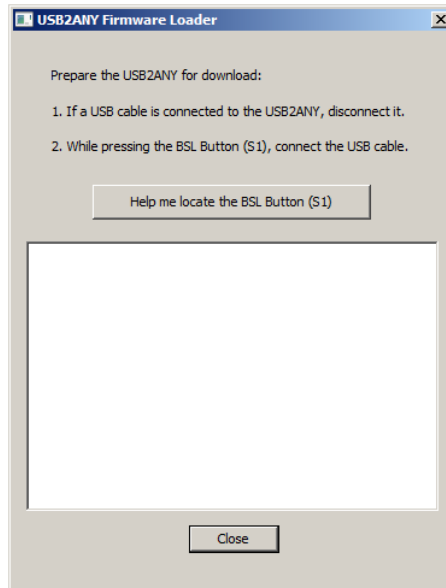

Figure B-2. Firmware Loader
2. Next, follow the on-screen procedure shown in Figure B-2.